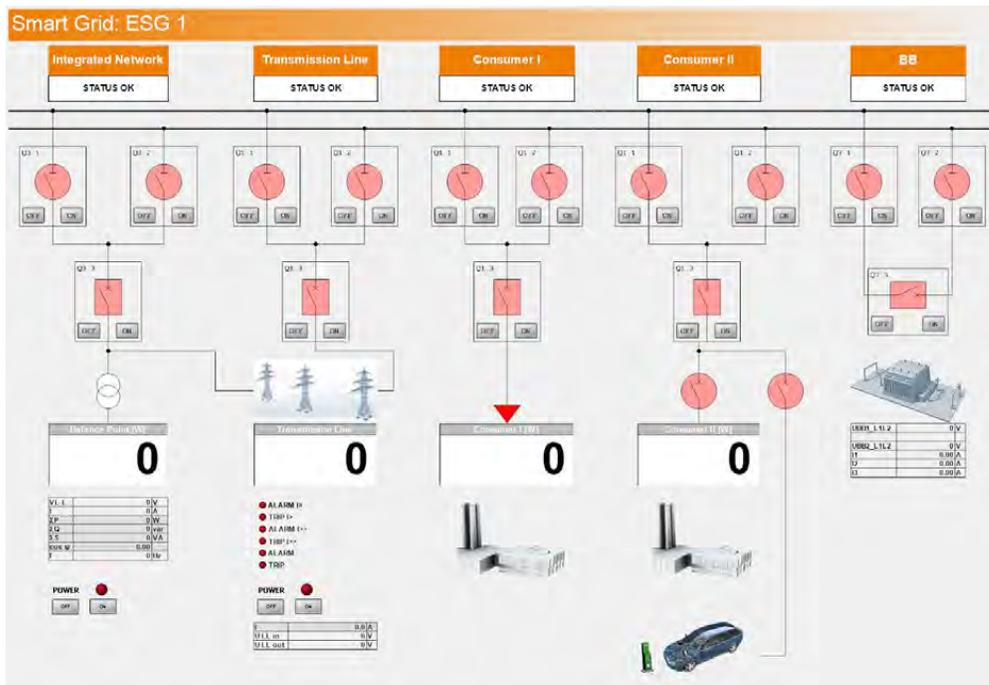

Figure 2:
3. Open the "SCADA Viewer" program directly from Labsoft  (top right) and select the file you have just saved. The SCADA user interface will look as Figure 2.